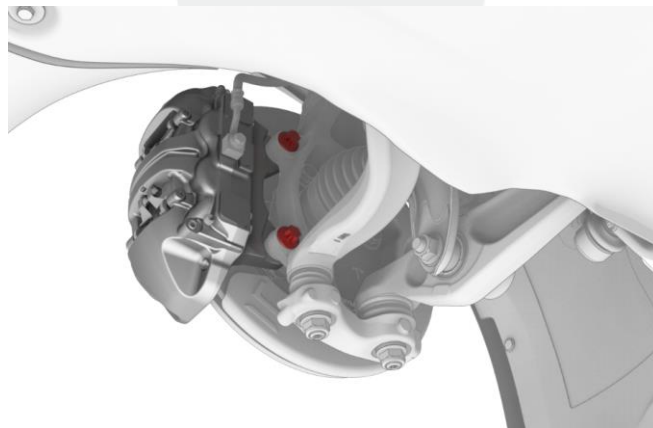

Figure 2 – Front caliper shown; rear caliper similar
5. Inspect the LH front brake caliper mounting bolts (Figure 2).